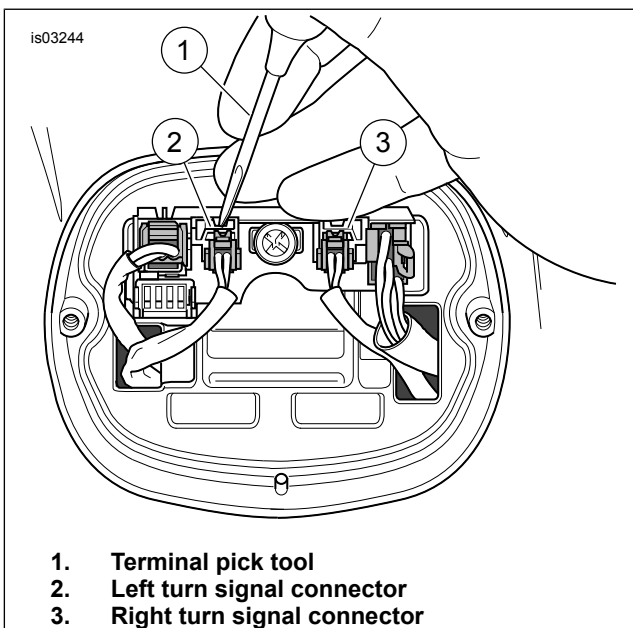

Figure 2. Remove Turn Signal Connectors
- b. See Figure 2. Using a Terminal Pick Tool (HD-41475-100) (1), depress locking tabs and remove turn signal connectors (2-place) (2, 3). Save connectors for kit installation. Refer to AMP MULTILOCK ELECTRICAL CONNECTORS in Service Manual.